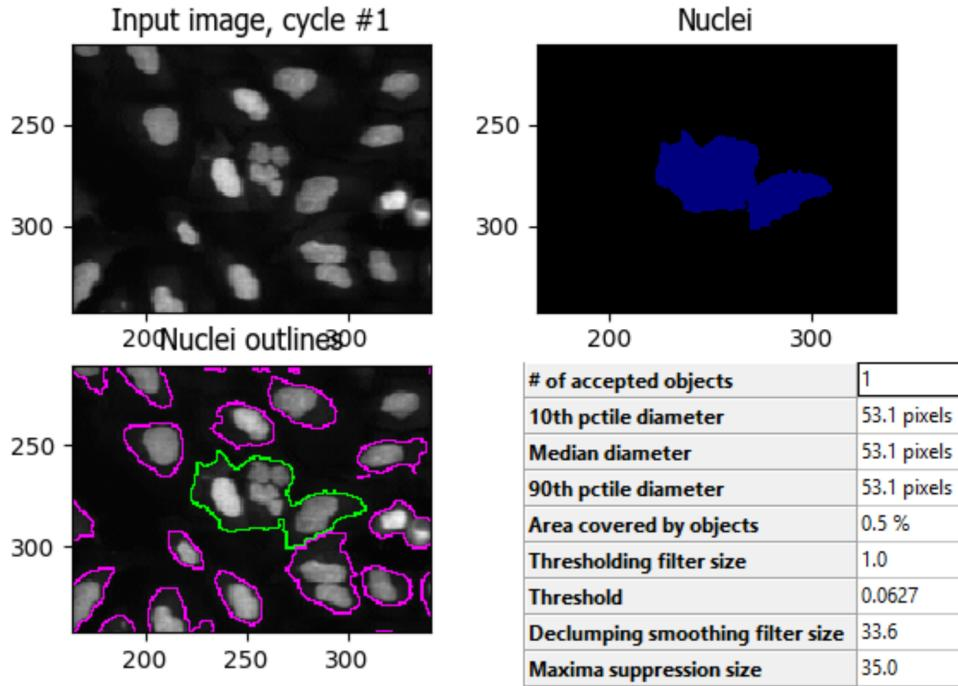

Figure 3: A zoomed-in view of the display window for IdentifyPrimaryObjects
- Zoom in the image in order to see the quality of the nuclei identification. The result may look like Figure 3.
In this instance, in Figure 3, you can see that the outlines capture too much of the background around the nuclei. This means that the default automated thresholding method calculated a threshold value that is too low. We can correct this with a change in the thresholding method used. Since we are in Test Mode, we can easily adjust the module settings and quickly preview the results.